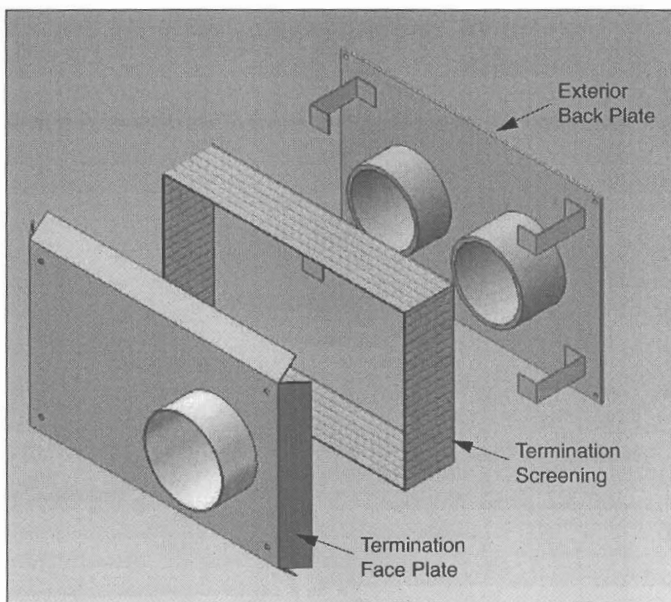

Fig. 4: Exterior Assembly of Termination
9. Install the termination screening onto the exterior back plate as shown in Figure 4. Using a slight twisting motion install the termination faceplate with the vent pipe inserted into the vent coupling.